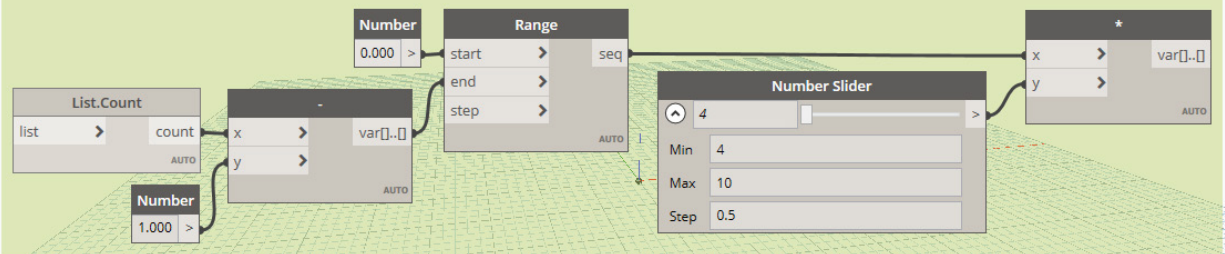

FIGURE 55
36. Position, wire and group the nodes as indicated in Figure 55.